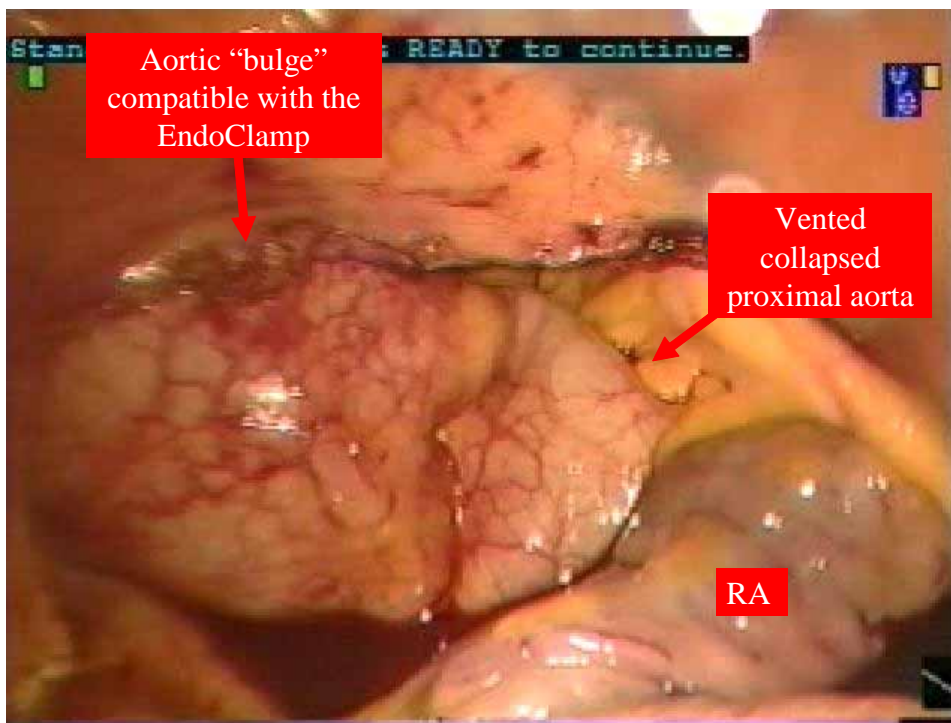

Figure 23: Endoscopic verification of correct EndoClamp position
- The endoscopic visualization of the proximal ascending aorta is a very valuable information-source for the final positioning of the EndoClamp. Correct seating of the EndoClamp can be assessed by an "aortic bulge" and collapsed proximal aorta [Figure 23].